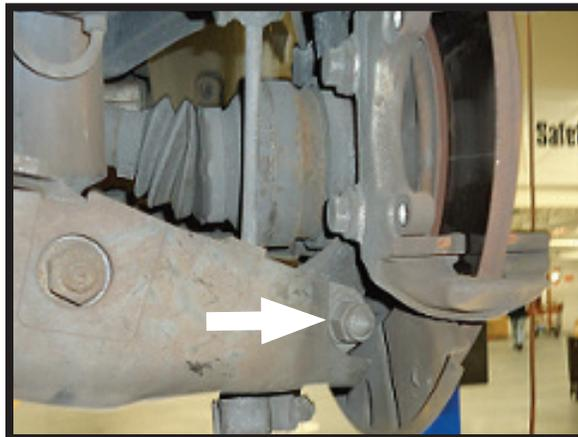

FIGURE 11
11. DISASSEMBLE THE OUTER SUSPENSION ARM. (FIGURE 11)